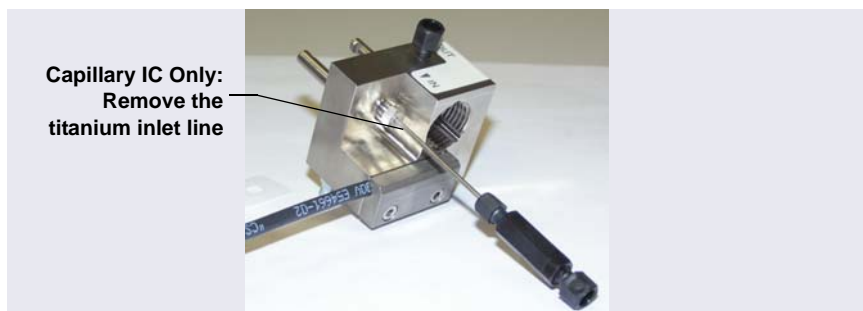

Figure B-4. Capillary IC Only: Removing the Titanium Inlet Line
6. If you are installing the ED cell in a capillary IC system, use an open-end wrench to remove the titanium inlet line from the cell (see Figure B-4).